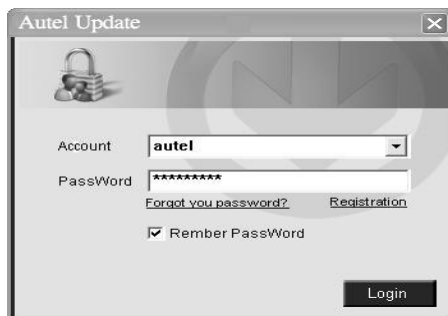

Figure 8.3
- 1) Run Update Client in the **PC Suit** program. Wait for the Log In window to pop up. (Figure 8.3)